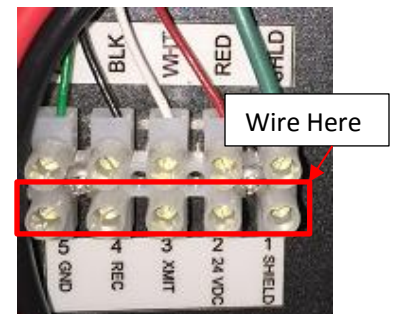

Figure 9
3. Keeping in mind that the **right EVSE is # 1**, attach each individual wire of the Module communication cable to its corresponding, pre-wired counterpart in the 5-position Euro-Block (**Figure 9**).